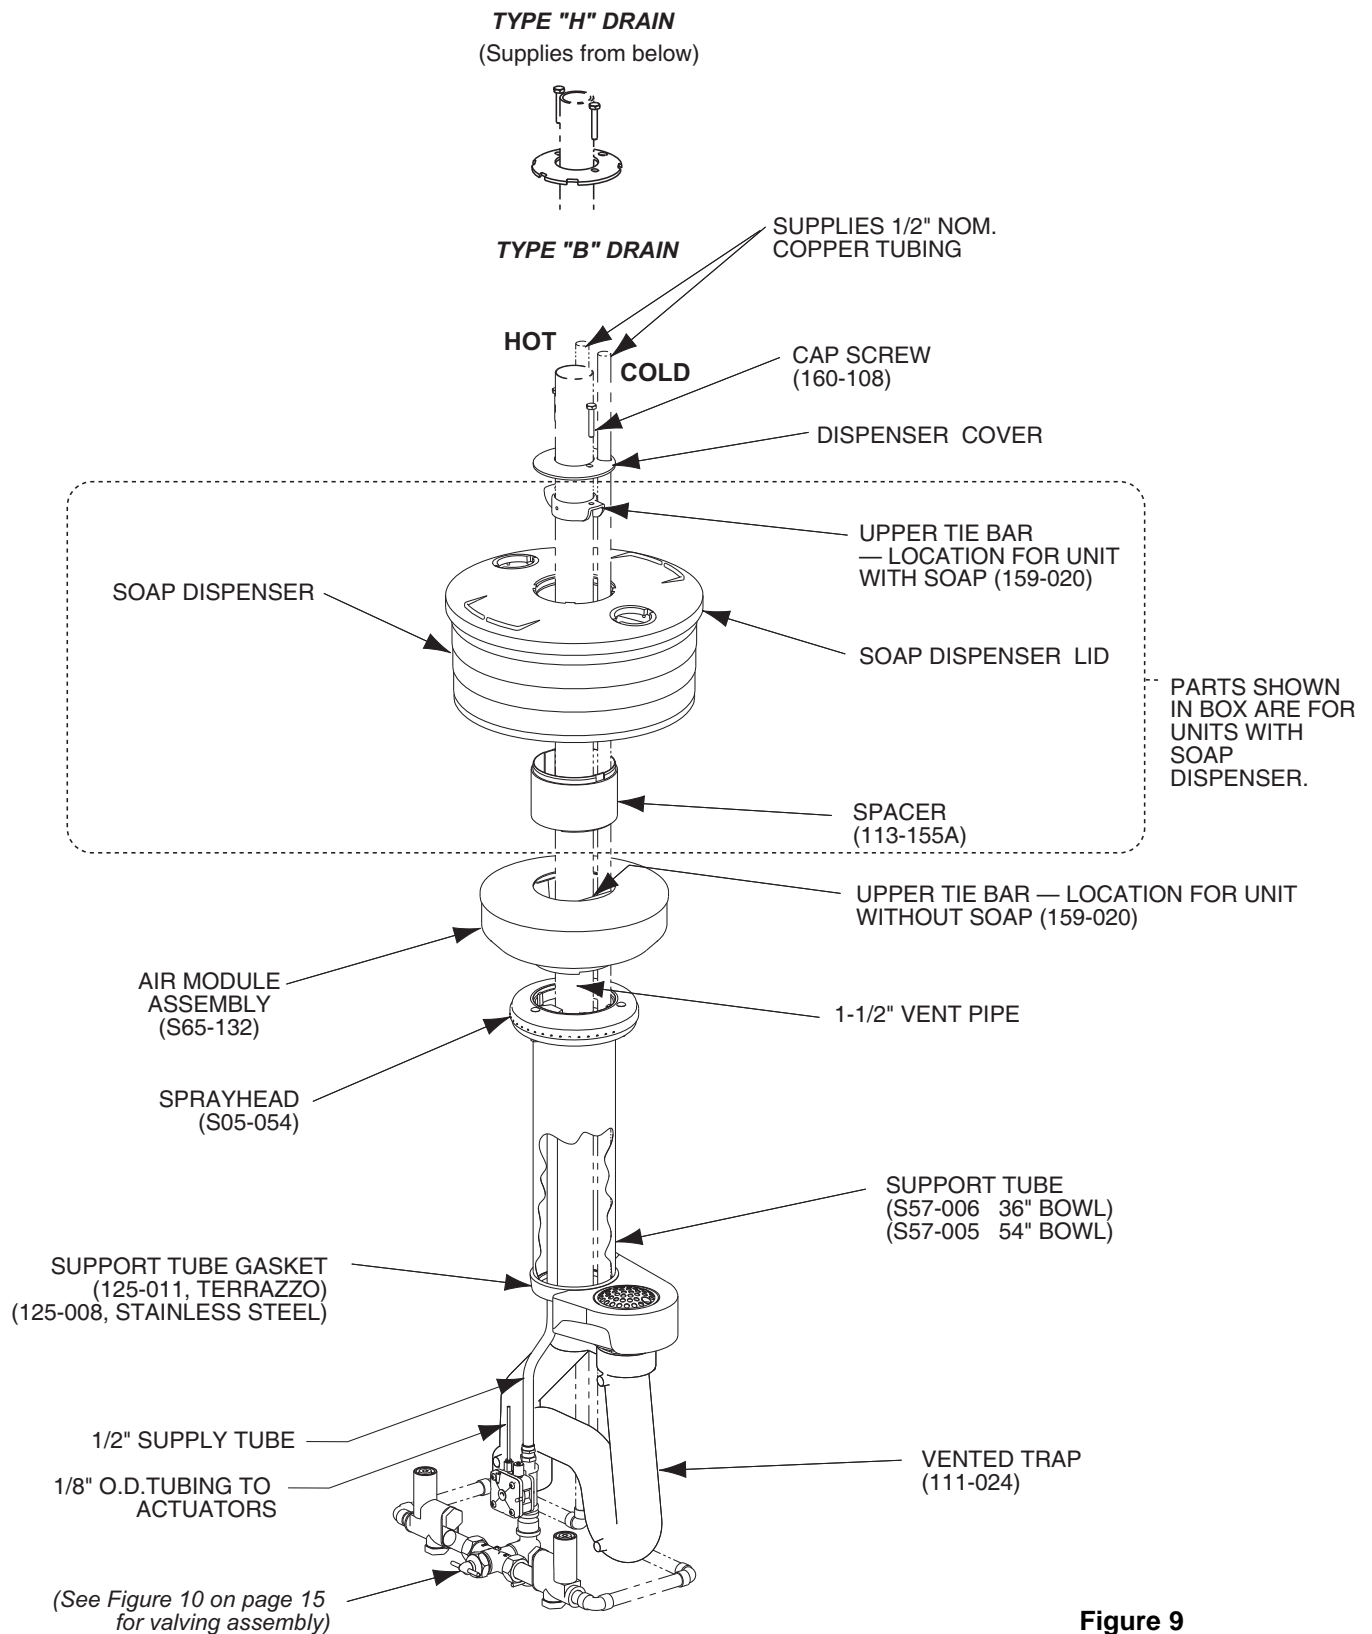

Figure 9
1. Install hemmed end (not sharp end) of support tube with gasket onto bowl as shown in Figure 9 on page 14.
3. Place sprayhead with 1/2" tubing onto support tube as shown in Figure 9. Run tubing down through support tube.
- 8a. **FOR UNITS WITH SOAP OPTION:** Place the spacer, soap dispenser and cover in position on top of air module (see Figure 9). Slide soap tie bar over 1-1/2" vent pipe 1/2" below top of soap dispenser cover and secure with the two cap screws included with the tie bar. Slide the dispenser cover over 1-1/2" vent pipe and secure with the two cap screws included with the tie bar.